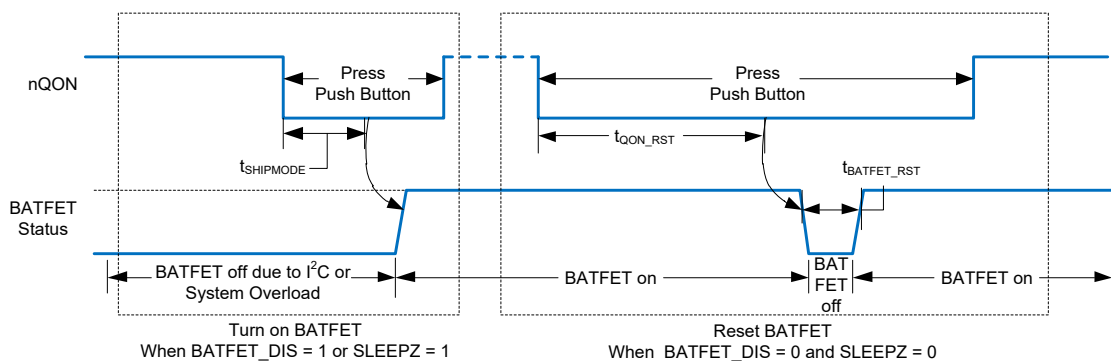

Figure 8. Left: nQON Timing to Exit Ship Mode (Enable BATFET), Right: System Power Reset (BATFET Temporarily Off)
1. Enable BATFET: Applying an nQON logic high to low transition with longer than $t_{SHIPMODE}$ deglitch time (negative pulse) turns on BATFET to exit ship mode (Figure 8 left).
2. Reset BATFET: By applying a logic low for a duration of at least t_{QON_RST} to nQON pin while VBUS is not powered and BATFET is allowed to turn on (BATFET_DIS bit = 0), the BATFET turns off for t_{BATFET_RST} and then it is re-enabled resulting in a system power-on-reset. This function can be disabled by clearing BATFET_RST_EN bit (Figure 8 right).